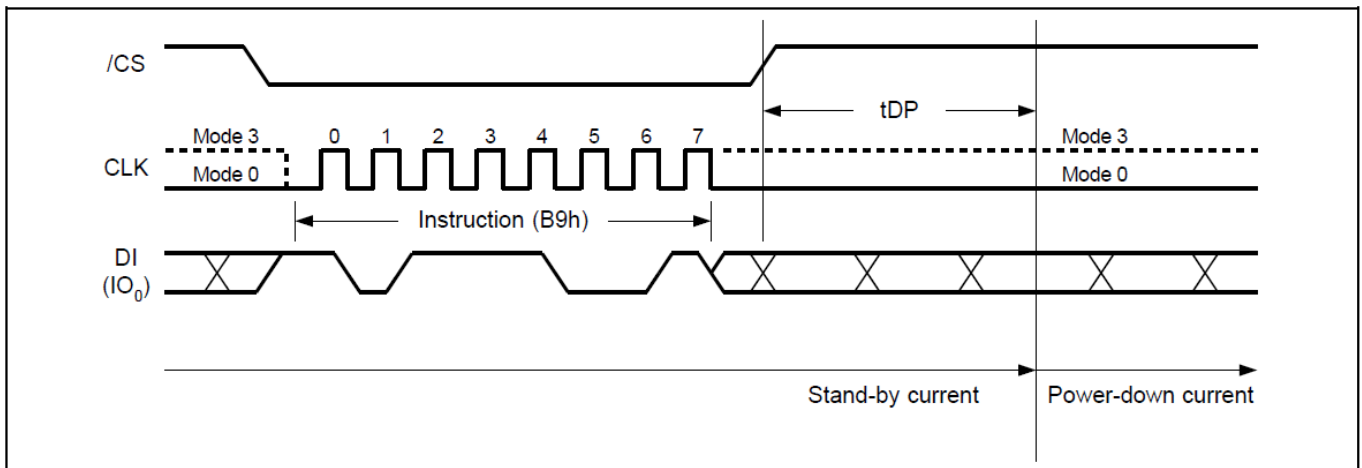

Figure14. Deep Power-Down Sequence Diagram
The Deep Power-Down Mode automatically stops at Power-Up, and the device always in the Standby Mode after Power-Up. The Deep Power-Down command sequence: CS# goes low → sending Deep Power-Down command → CS# goes high. The command sequence is shown in Figure14. CS# must be driven high after the eighth bit of the command code has been latched in; otherwise the Deep Power-Down (DP) command is not executed. As soon as CS# is driven high, it requires a delay of t_{DP} before the supply current is reduced to ICC2 and the Deep Power-Down Mode is entered. Any Deep Power-Down (DP) command, while an Erase, Program or Write cycle is in progress, is rejected without having any effects on the cycle that is in progress.